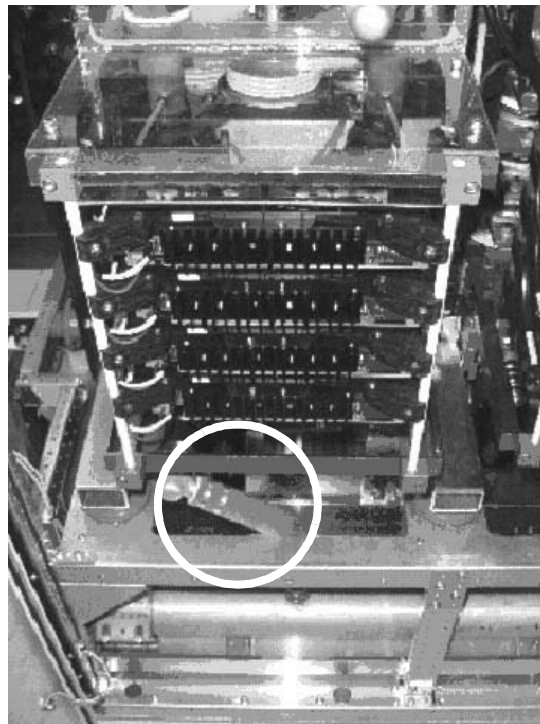

Figure 2-4 Extracting the Phase Module
- 4 Disconnect the phase module from the rear busbar connectors. Pull it towards the front of the cabinet until the lower water hose just touches the support frame (see circle in *Figure 2-4*).